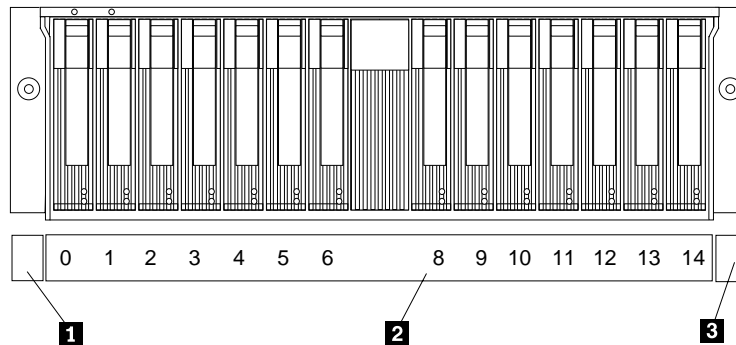

Figure 13. Applying the SCSI ID label to the storage unit
1. Locate the single-bus SCSI ID label (see Figure 13).
- d. Apply the label to the front of the unit, as shown in Figure 13.